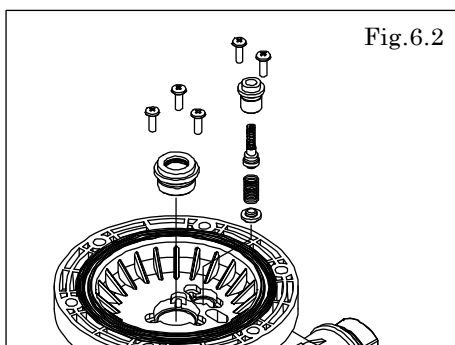

Fig.6.2
- Draw out the pilot valve assembly. [Fig.6.2]
- Draw out the throat bearing. [Fig.6.2]